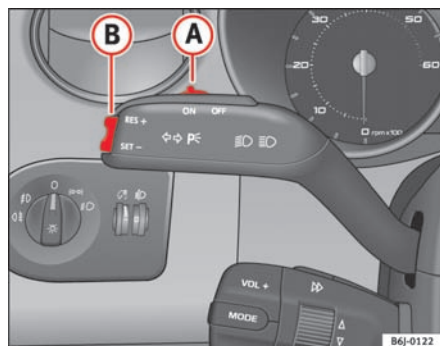

Fig. 103 Turn signal and main beam headlight lever switch and rocker switch for the cruise control
- Press the upper part **RES** of the rocker switch ⇒ fig. 103 **B** to increase the speed. The vehicle will continue to accelerate as long as you keep the rocker switch pressed. When you release the switch, the new speed is stored.
Control of the set speed is switched off if you reduce speed by depressing the brake pedal. Reactivate the control by pressing once on the upper part of the rocker switch **RES+** ⇒ fig. 103 **B**.